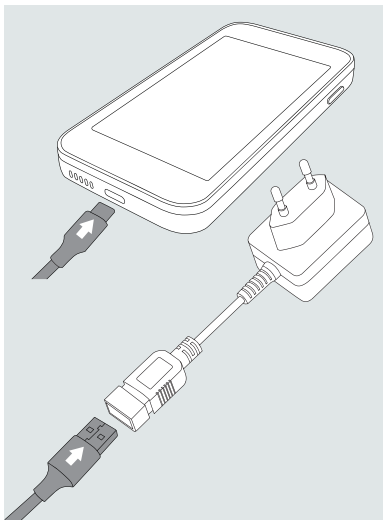

Figure 9
2. Insert the small end of the cable into the PDA, and the large end of the cable into the PDA adapter as shown in Figure 9.